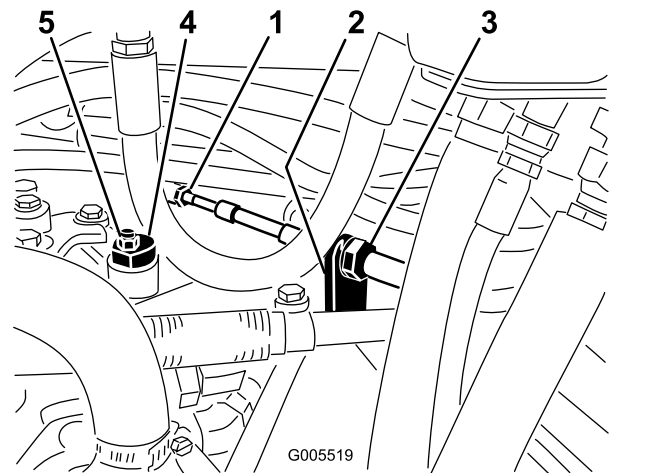

Figure 53
- A. Loosen both jam nuts securing the traction control cable to the bulkhead on the hydrostat (Figure 53). Make sure the jam nuts are loosened equally and sufficiently to allow adjustment.
Note: Loosen the nut securing the eccentric to the top of the hydrostat (Figure 53).
eccentric and the adjustment (Figure 53). Verify the adjustment with the throttle in the Slow and Fast position.
- D. From each side of the bulkhead, tighten the locknuts evenly, securing the traction cable to the bulkhead (Figure 53). Do not twist the cable.